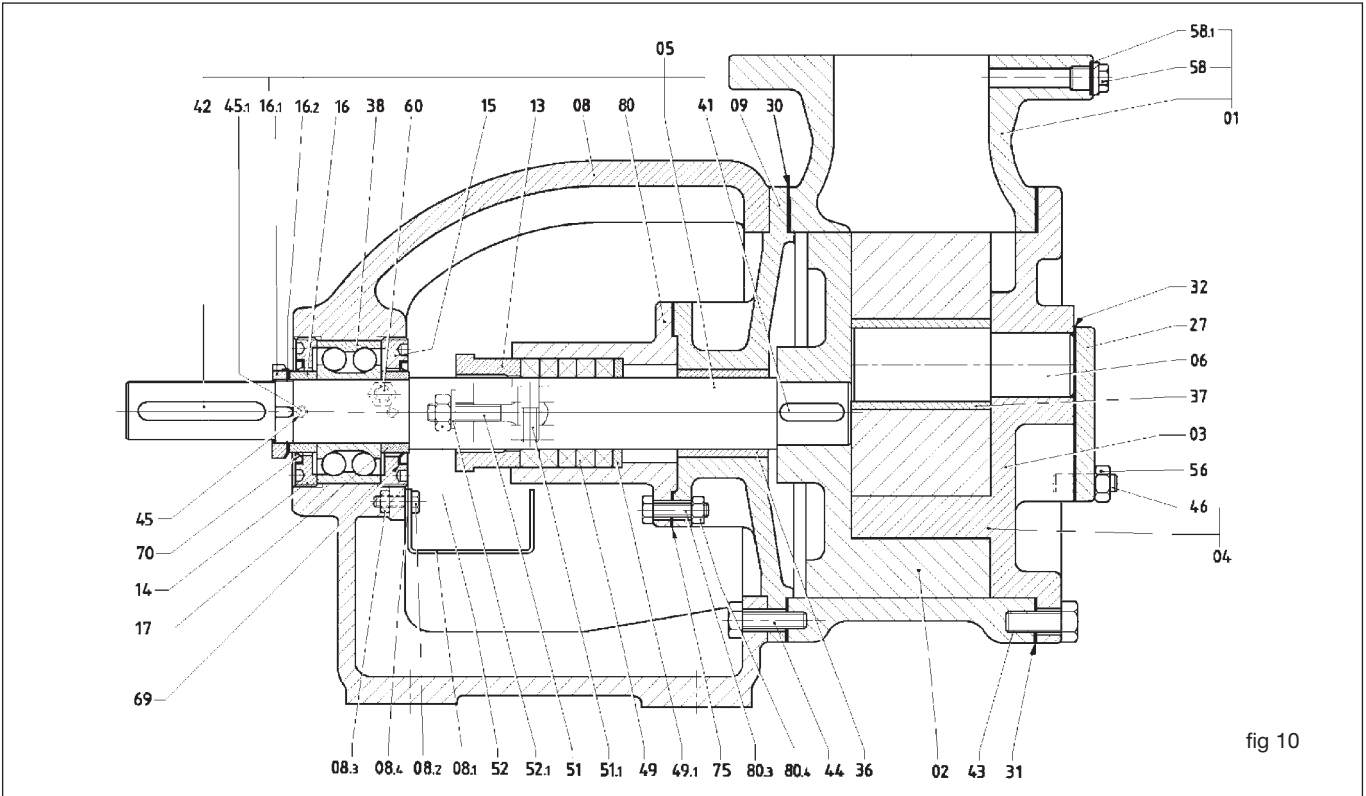

fig 10
11.1 Removing the cover (04) (see fig. 10)
- ❑ Unscrew the screws (43). Use the two threaded holes on the cover (if present) to facilitate removal of the cover.
- ❑ When removing the cover, take care not to damage the gasket (31). If this is damaged it should be replaced. Do not use damaged gaskets or gaskets with a thickness different from that of the original gasket (01).
- Attention:** when the cover is removed, the idler may fall off the idler pin (06) if it is not held. This is a potential cause of accidents.
11.2 Removing the idler (03) (see fig. 10)
- ❑ Slip the idler off the idler pin (06). The idler bush is fitted to the centre of the idler (37). (Some versions do not have an idler bush and mount a large diameter pin.)
11.3 Removing the idler pin (06) (see fig. 10)
11.4 Removing the casing (01) (see fig. 10)
- ❑ Remove the screws (44).
- ❑ Disengage the casing from the rear cover (09) taking care not to damage the gasket. If the gasket is damaged, replace it.
- ❑ The rear cover remains centred on the pedestal (08).
11.5 Removing the ball bearing (38) (see fig.10)
11.12 Removing the shaft bush (36 fig.10)
- ❑ Proceed as indicated in points 11.1- 11.2 - 11.4 - 11.5 for pumps with either mechanical seal or packed gland and remove the shaft from the rear cover (09).
- ❑ To remove the rotor (02) use a bench press.
12.1 Mounting the ball bearing (38) fig. 10
- Clean the seat on the pedestal (08) thoroughly.
12.2 Mounting the shaft bush (36) fig. 10
- Clean the seat in the rear cover (09) thoroughly. The shaft bush must be mounted using a press. It is perfectly symmetrical and can therefore be mounted in either direction. When mounting the bush in its seat, use a continuous movement. ONLY for the V 180 and V 200 (versions with Graphite Bushes), heat the rear cover to 80 degrees C before mounting the bush. Wait until it has cooled completely and use machine tools to bring it to the tolerance indicated by Varisco S.r.l..
12.3 Mounting the shaft and rotor (02) fig. 10
- Mount the rotor key (41) in its seat on the shaft and force the shaft into the rotor with a press. Do not mount the shaft key (42).
- Assemble the shaft (05) with the rear cover (09), the gland or seal box (80) and the bearing housing. This operation is easier to carry out with the pump positioned vertically resting on the rotor.